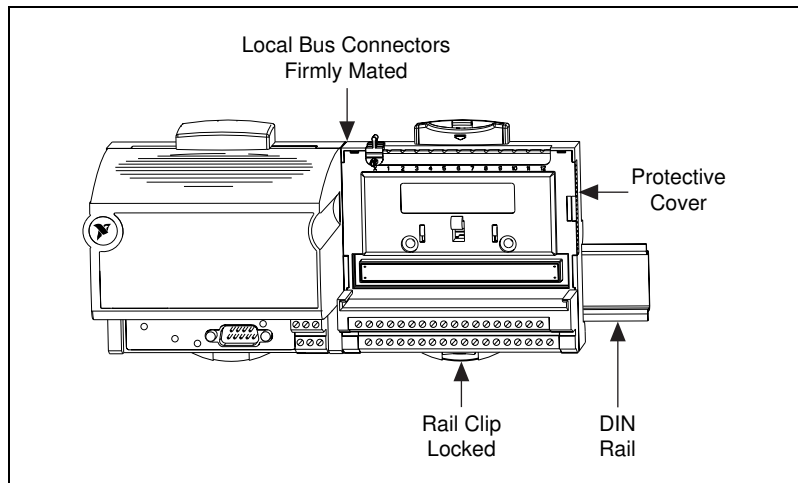

Figure 2-7. Connecting Terminal Bases
4. Place the protective cover (from the bag of accessories that came with your FP-3000) onto the local bus connector of the last terminal base on the bank, as shown in Figure 2-7.